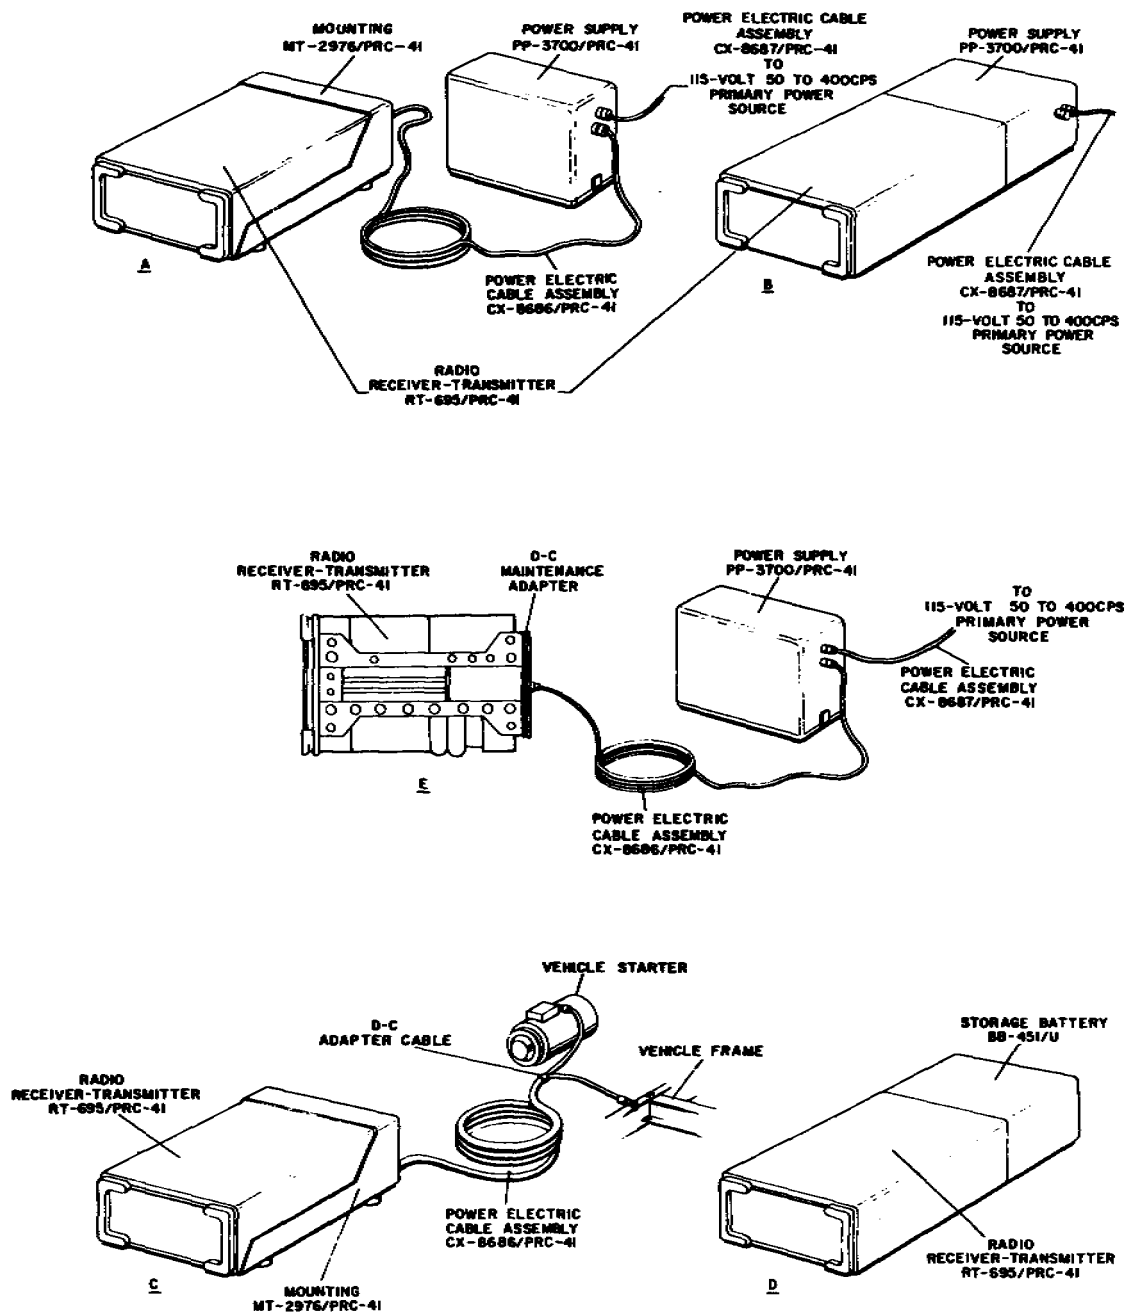
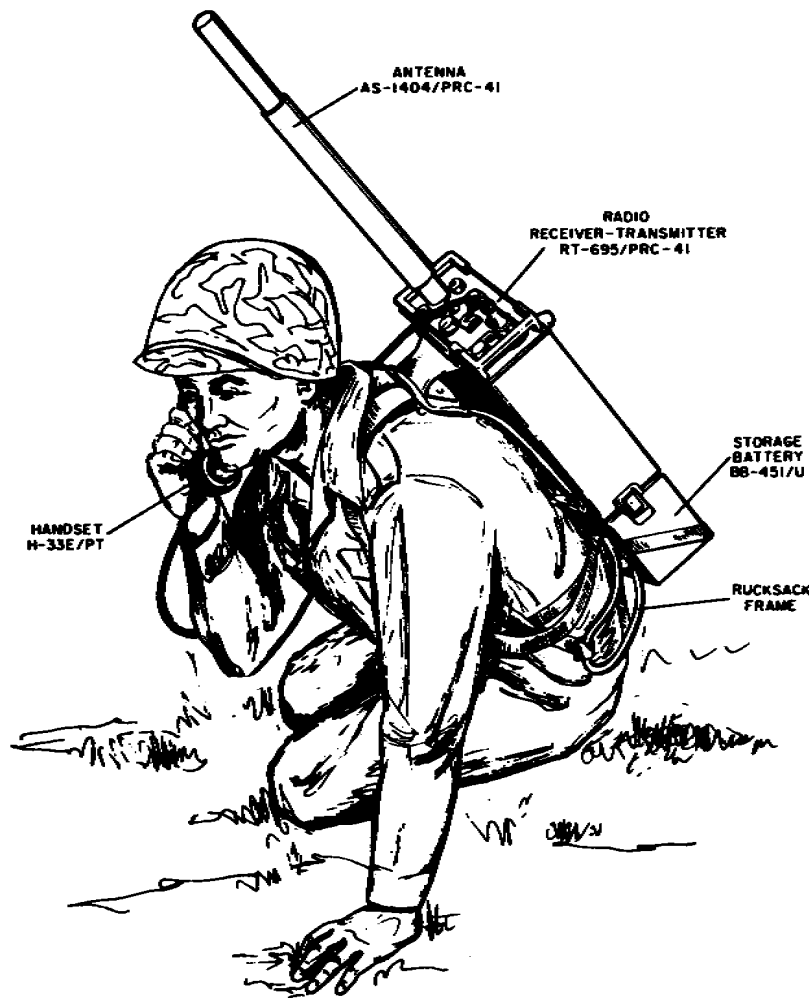
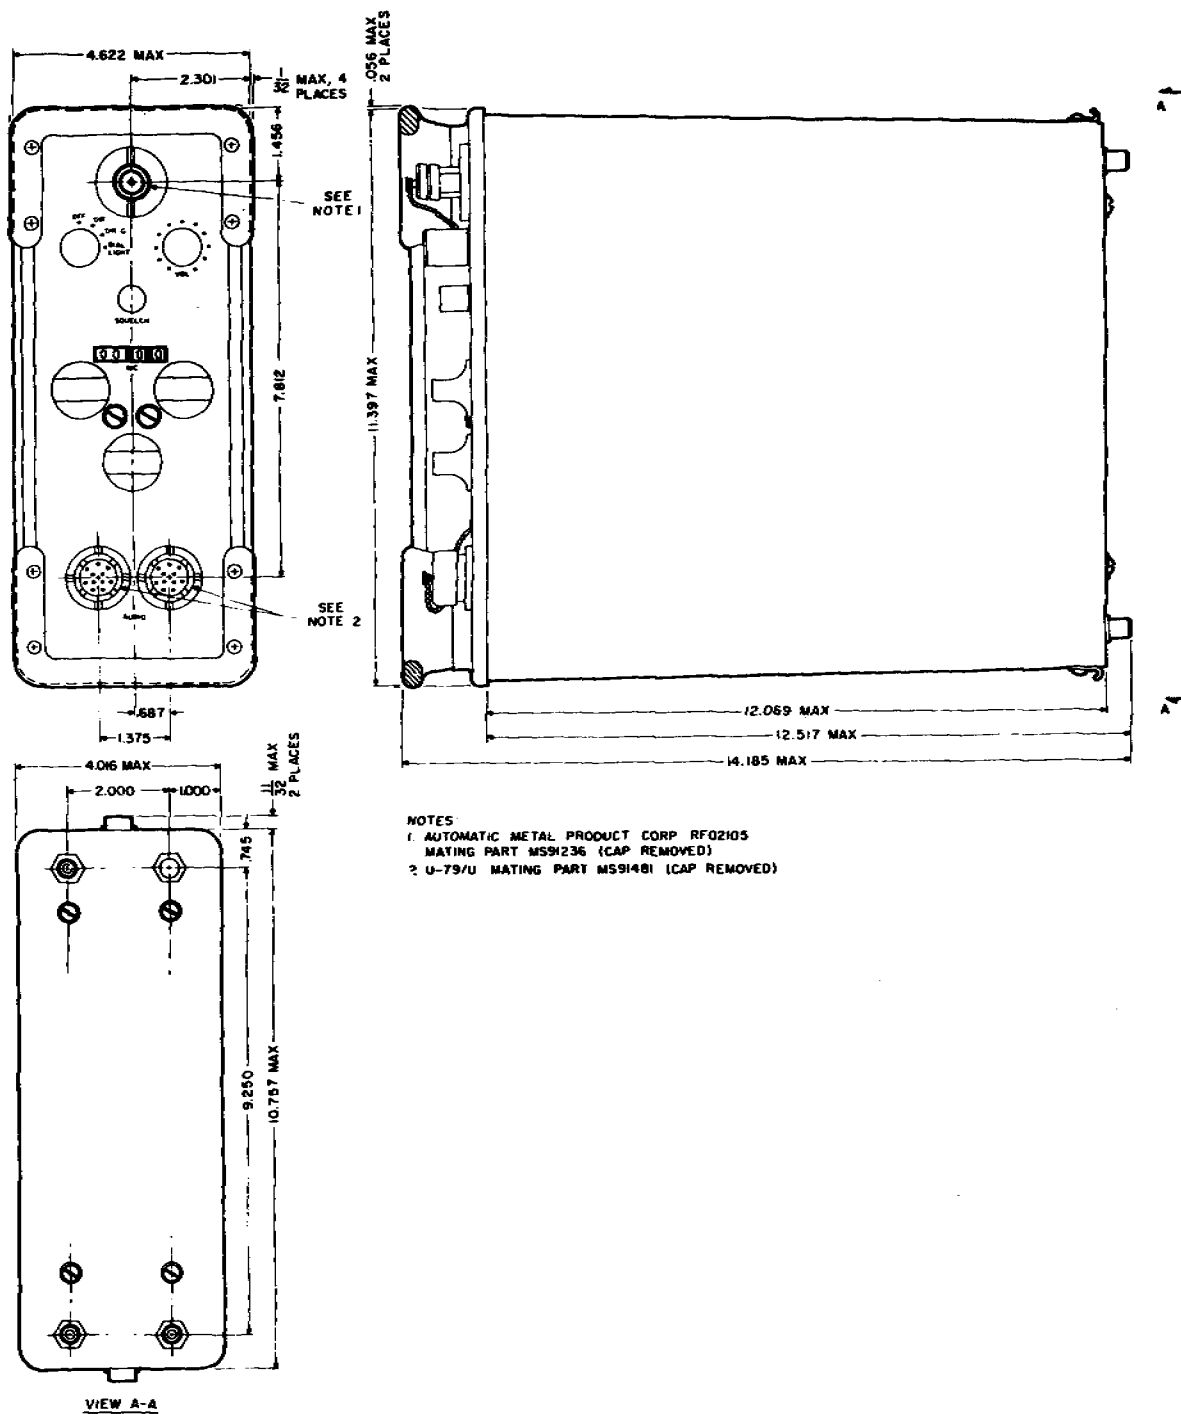
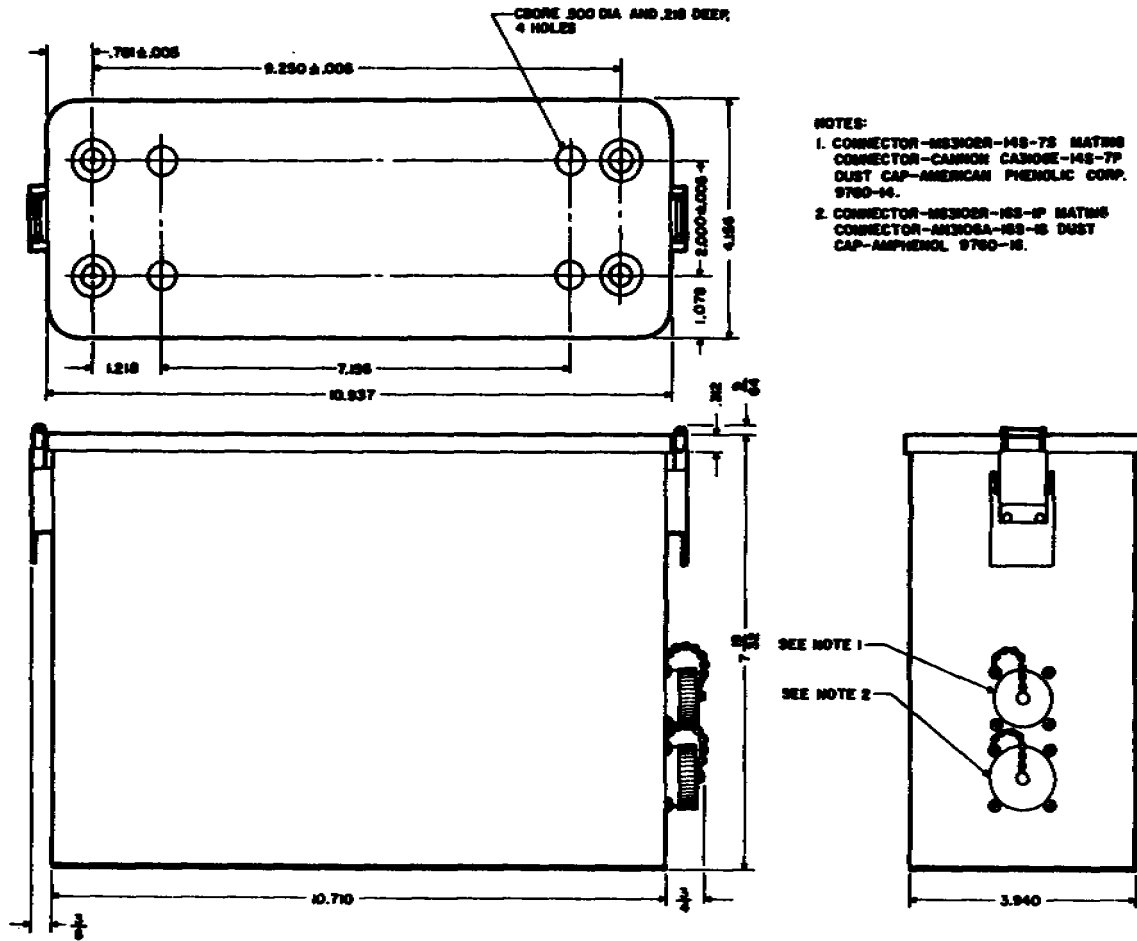

Figure 2-3. Source of Power Configurations of Radio Receiver-Transmitter RT-695/PRC-41
Figure 2-4. Radio Set AN/PRC-41, Man-Pack Installation
Figure 2-13. Radio Receiver-Transmitter RT-695/PRC-41, Outline and Mounting Dimensions
Figure 2-14. Power Supply PP-3700/PRC-41, Outline and Mounting Dimensions
a. **POWER PROVISIONS.** - Radio Receiver- RT-695/PRC-41 requires a nominal 26.5-volt d-c primary source. This supply may be provided by use of Power Supply PP-3700/PRC-41, Storage Battery BB-451/U, or by an aircraft or vehicular battery supply. Figure 2-3 illustrates the various configurations which may be used to supply the required d-c primary power to Radio Receiver- RT-695/PRC-41.
Primary Power for Radio Receiver-Transmitter RT-695/PRC-41 may be provided by a separately located power supply PP-3700/PRC-41. Refer to part A of figure 2-3. In this configuration, Power Electric Cable Assembly CX-8686/PRC-41 is used to connect the 26.5-volt d-c output from the PP-3700/PRC-41 to Mounting MT-2976/PRC-41 and to the RT-695/PRC-41, Power Electric Cable Assembly CX-8687/PRC-41 is used to connect the 115-volt a-c primary power to Power Supply by PP-3700/PRC-41. Primary power for Radio
Receiver-Transmitter RT-695/PRC-41 may also be provided by Power Supply PP-3700/PRC-41 attached directly to the RT-695/PRC-41 as shown in part B of figure 2-3. This configuration uses Power Electric Cable Assembly CX-8687/PRC-41 to connect the primary 115-volt a-c supply to Power Supply PP-3700/PRC-41. For aircraft or vehicular operation, Radio Receiver- RT-695/PRC-41 may be mounted on Mounting MT-2976/PRC-41 and connected to the aircraft or vehicular battery supply through Power Electric Cable Assembly CX-8686/PRC-41 and the d-c adapter cable. Refer to part C of figure 2-3. For man-pack operation, Storage Battery BB-451/U is attached directly to the rear of Radio Receiver RT-695/PRC-41 to provide the required d-c primary supply voltage. Refer to part D of figure 2-3. For operation of Radio Receiver- RT-695/PRC-41 with its case removed, the d-c maintenance adapter must be secured to the rear of the RT-695/PRC-41 and Power Electric Cable Assembly CX-8686/PRC-41 must be connected between the d-c maintenance adapter and Power Supply PP-3700/PRC-41. The 115-volt a-c primary supply is then connected through Power Electric Cable Assembly CX-8687/PRC-41 to Power Supply PP-3700/PRC-41. Refer to part E of figure 2-3.
The assembly layout of Radio Set AN/PRC-41 is dependent on the type of installation required. Radio Set AN/PRC-41 may be assembled for man- fixed station, or vehicular operation. Refer to figures 2-4 through 2-7. For outline and mounting dimensions, refer to figures 2-13 through 2-17.
a. **MAN-PACK INSTALLATION.** - Refer to figure 2-4. In man-pack installation, Radio Receiver- RT-695/PRC-41 is provided primary power by Storage Battery BB-451/U, and Antenna AS-1404/PRC-41 is connected directly
(1) MOUNTING AND POWER CONSIDERATIONS. - When Radio Receiver-Transmitter RT-695/ PRC-41 is used in a vehicular installation, it is mounted on Mounting MT-2976/PRC-41 and supplied power through Power Electric Cable Assembly CX-8686/PRC-41 and the dc adapter cable from the vehicle battery supply. Refer to part C of figure 2-3. Refer to figures 2-13 and 2-16 for outline and mounting dimensions when fastening the shockmounts of Mounting MT-2976/PRC-41 to the vehicle. When the RT-695/PRC-41 is used in an aircraft, it is mounted in the same way as for a vehicular installation. Power for an aircraft installation is supplied by Power Supply PP-3700/PRC-41 which may be located at some remote location in the aircraft. Power Supply PP-3700// PRC-41 clamps to Mounting MT-2977/PRC-41. Mounting MT-2977/PRC-41 must be secured to the aircraft frame. Refer to figures 2-14 and 2-17 for outline and mounting dimensions. Power Electric Cable Assembly CX-8687/PRC-41 connects Power Supply PP-3700/PRC-41 to the 115-volt, 50- to 400- primary aircraft supply. Power Electric Cable Assembly CX-8686/PRC-41 is used to connect Power Supply PP-3700/PRC-41 to Mounting MT-2976/ PRC-41 to supply power to the RT-695/PRC-41.